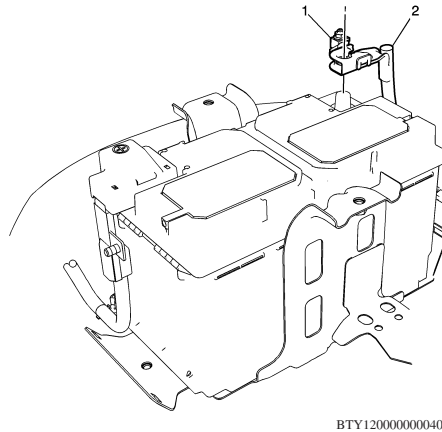

Fig. 1 Battery ground cable removal
5. Loosen battery ground cable terminal nut (1), **Fig. 1**.
6. Disconnect battery ground cable (2) from battery, **Fig. 1**.
7. Install battery ground cable (2) to battery, **Fig. 1**. **Torque** battery cable nut to 11 ft. lbs.